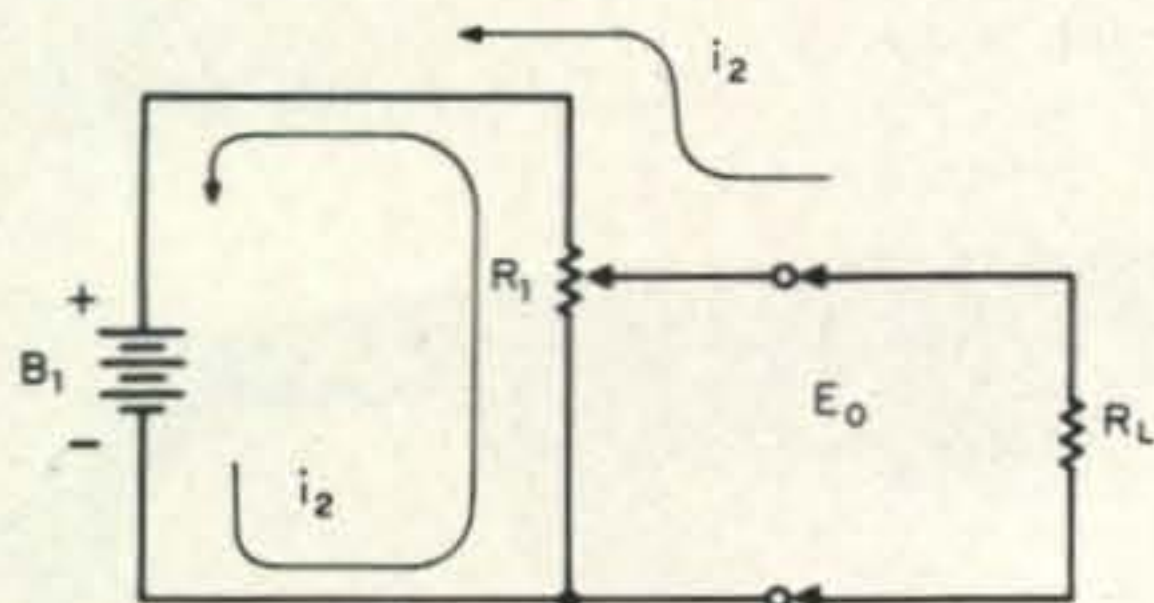

Fig. 1—Schematic presentation of a potentiometer showing the current paths and voltage divider action.
From the definition above, two factors are important: (1) we must have a stable known voltage as a reference source, and, (2) we must have a constant current through a stable known value of resistance such that points of known IR drop can be selected along the length of the resistance. For a better understanding of the word POTENTIOMETER and its application to measurements, let's examine fig. 1.
Replacing R_1 in fig. 1 with a galvanometer and another battery of lower voltage than B_1 , we develop fig. 2.